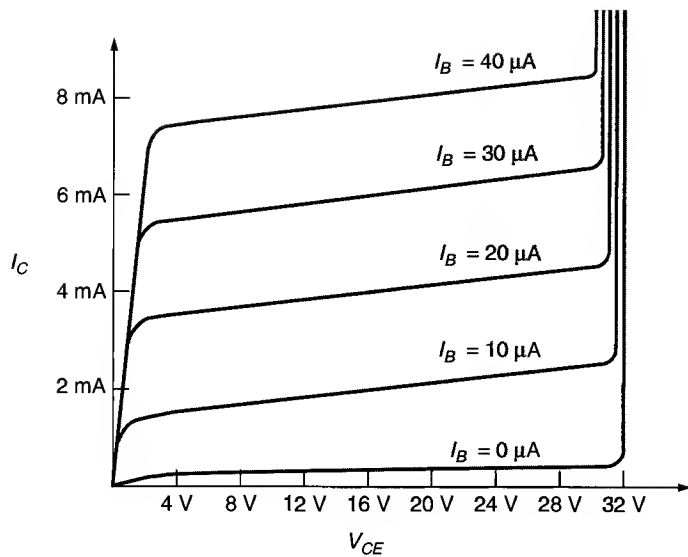

FIGURE 6.39
21. Refer to Figure 6.39. What is the range of breakdown voltages of the transistor represented by the collector curves?
22. Refer to Figure 6.39. What is the approximate value of I_C when I_B is $40 \mu\text{A}$?
23. Refer to Figure 6.39. What is the maximum value of V_{CE} when the device is saturated?